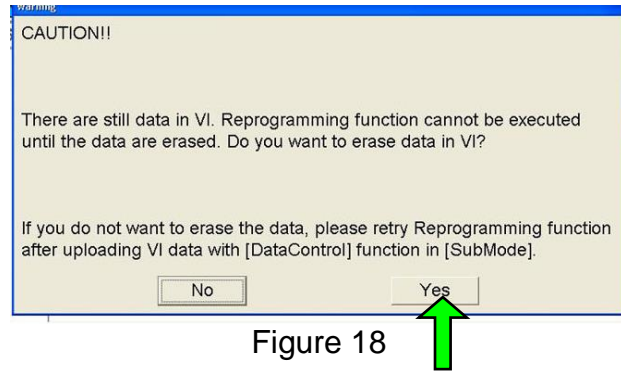

Figure 18
**NOTE:** If the message shown in Figure 18 appears, there is data stored in the plus VI. Select “Yes” to proceed with reprogramming.